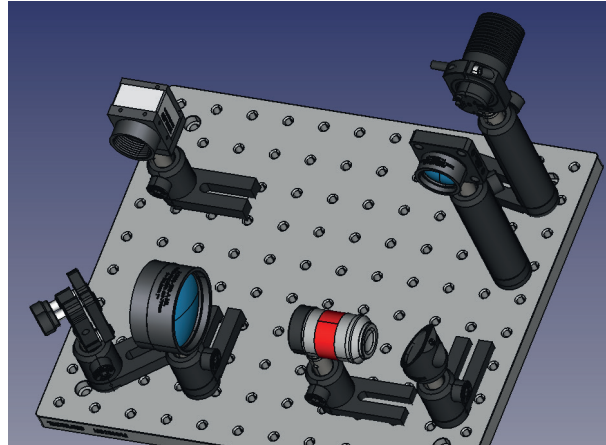

FIGURE 3 – Setting up the illumination, part 1.
Step 3 : Install the red LED for the transmission mode with the LED mount and an optical post on a tall post holder. Place it in the opposite corner of the kinematic mirror mount (top right on figure 3). The center of the LED should be 18 cm high in relation to the breadboard. Install a small focal length lens on a lens mount compatible with cage systems. Place it also on an optical post and a tall post holder. Adjust the distance between the lens and the LED in order to have a collimated beam after the lens. This will provide the widefield illumination.